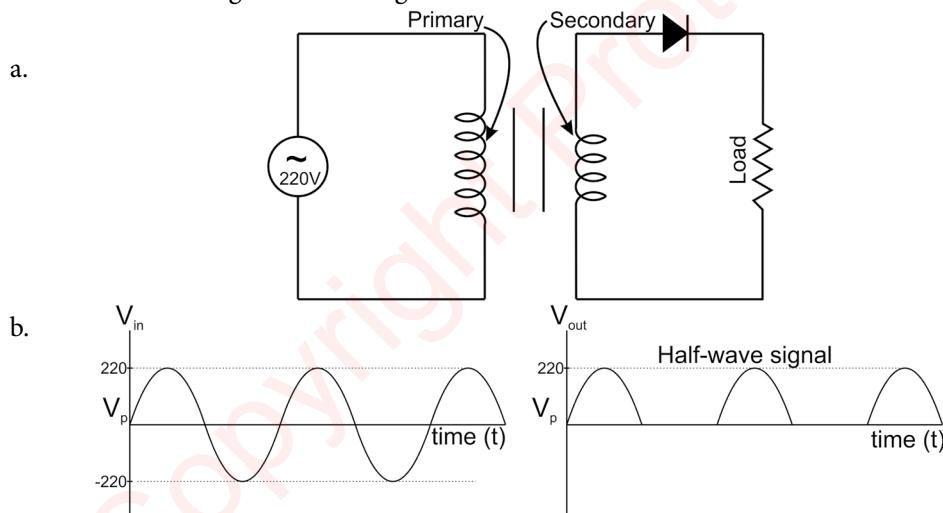

Fig 6.10 Half wave rectifier
In a Half wave rectifier, a step down transformer is used to scale down the AC voltage (say from 220 V to 12V), this AC signal is given to a circuit where a diode is connected in series with resistance (R). The diode will be in forward bias for one half cycle and in reverse bias in another half cycle. The voltage across the diode in forward bias is low (equal to knee voltage), then the total voltage will appear on Resistance R as per Kirchhoff's law. In reverse bias no current or very less current will flow, hence the voltage across resistance R is very low and all the voltage will appear on diode. Fig 6.10(a) Shows the circuit of the Half wave rectifier. The input and output waveform is also displayed in Fig 6.10(b). The voltage appearing on the R is variable DC voltage and further given to filter circuits to convert variable DC into constant DC